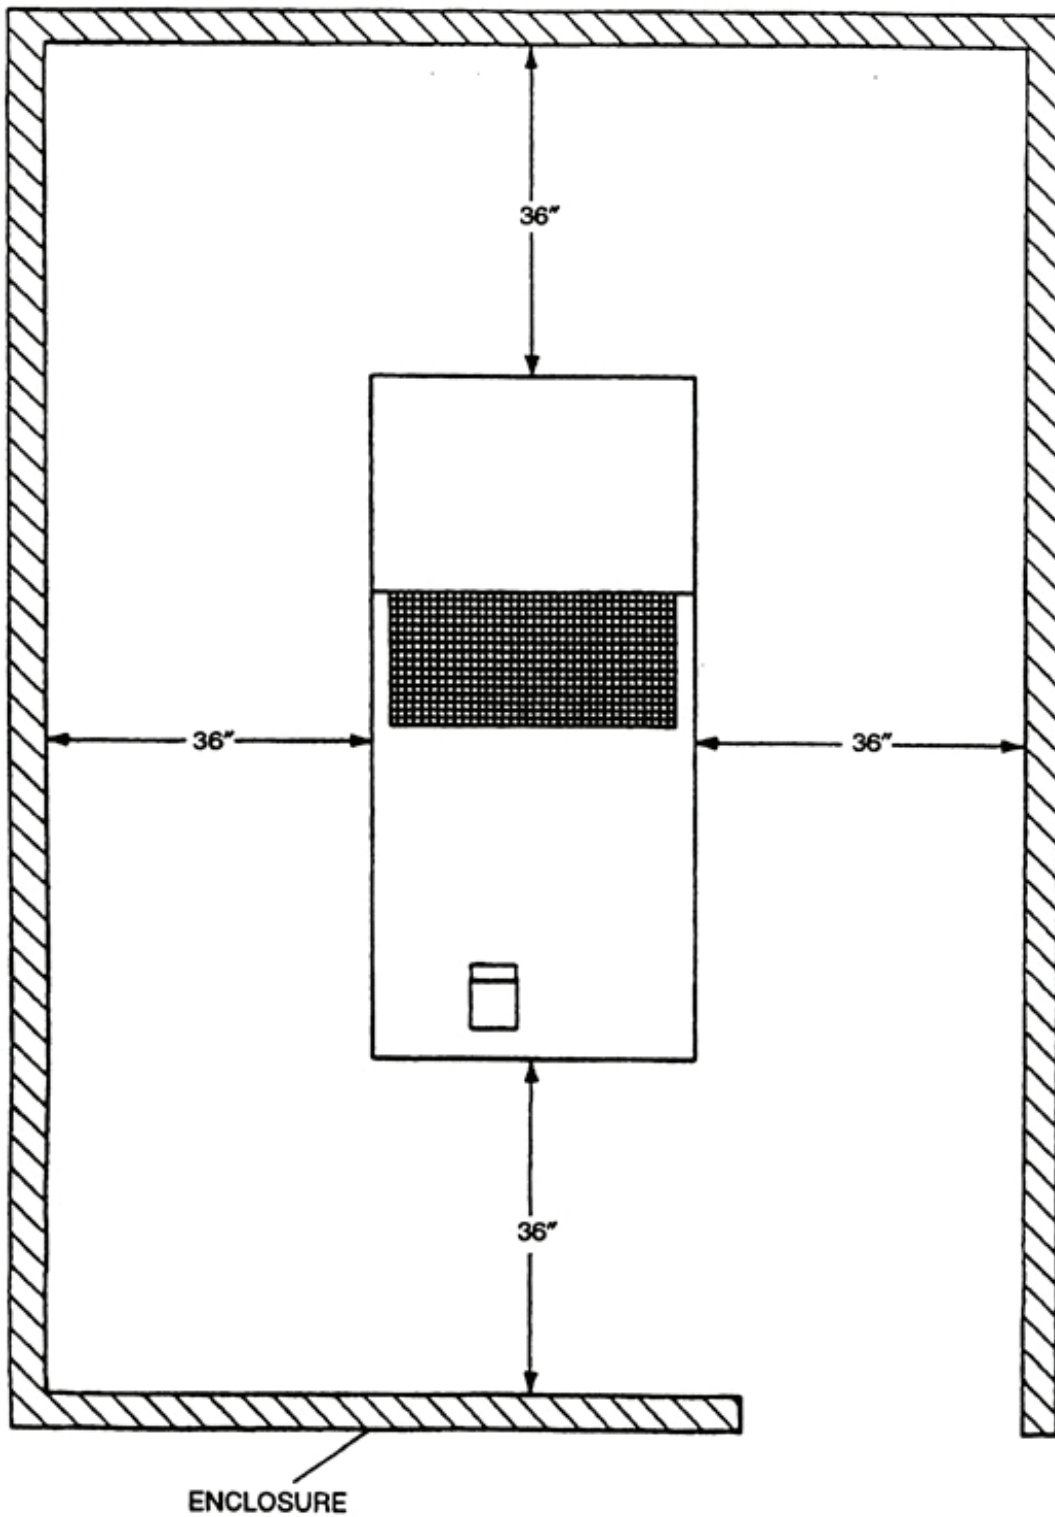

Figure 2-2. Minimum Enclosure Clearance Measurements.
- b. Allow space on all sides for service and maintenance. Refer to Figure 2-2 for minimum clearance measurements.
- h. Allow space on all sides for service and maintenance. Refer to Figure 2-2 for minimum clearance measurements.